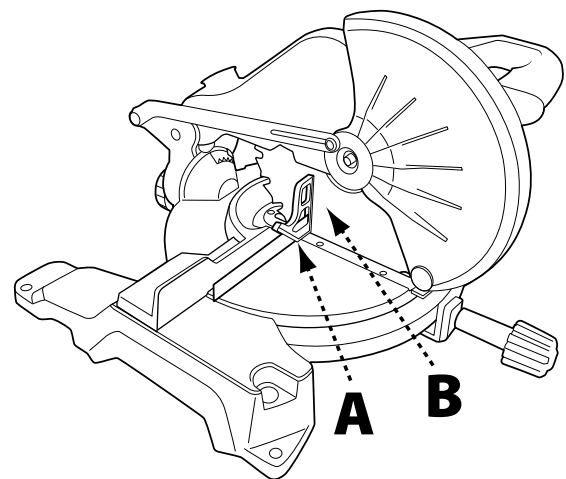

FIGURE 13
Refer to Figure 13.
9. The edge of the square and the saw blade should be parallel as shown in Figure 13.